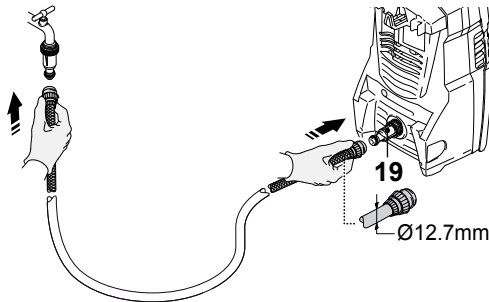

Fig. 12
Attach a suitable water hose to the water supply and then attach the other end to the water hose inlet connector (19) of the product (Fig. 12).